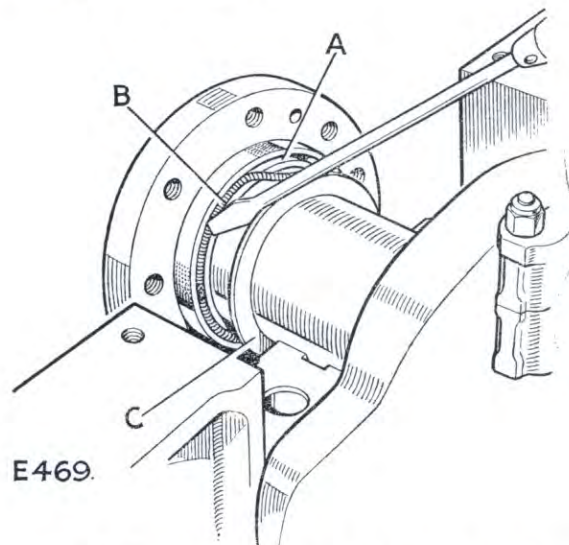

Fig. 2—Fitting garter spring to oil seal recess.
4. Ensure that the hook and eye of the garter springs are located mid-way between the split and hinge of the oil seal. Then, using a small screwdriver or similar tool, gently ease the spring into the recess in the oil seal. See Fig. 2.